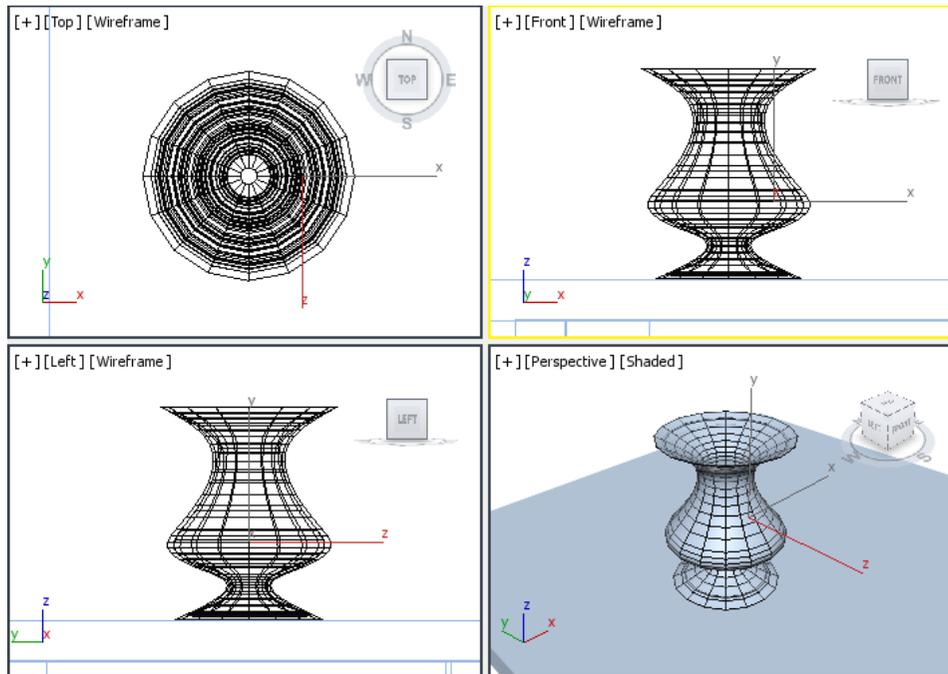

Figure 5-15 The profile rotated to form the Jug
17. To properly align the shape, select the **Min** radio button in the **Align** area of the **Parameters** rollout; the profile form the shape of a jug, refer to Figure 5-15. Invoke the **Zoom Extents All Selected** tool from the viewport navigation controls to zoom the object to its extent.